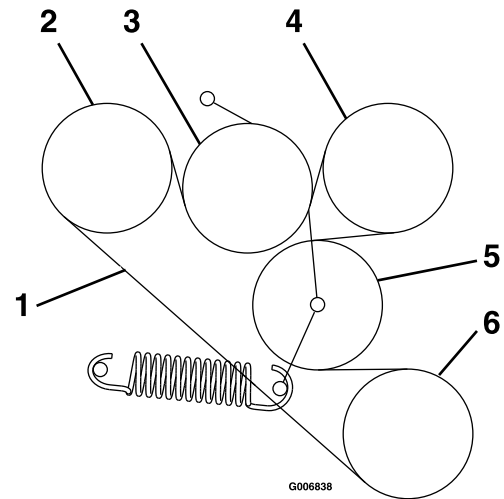

Figure 10
4. Route new belt onto sheaves as shown in the decal located on the back of the left drive shield (see Figure 10).